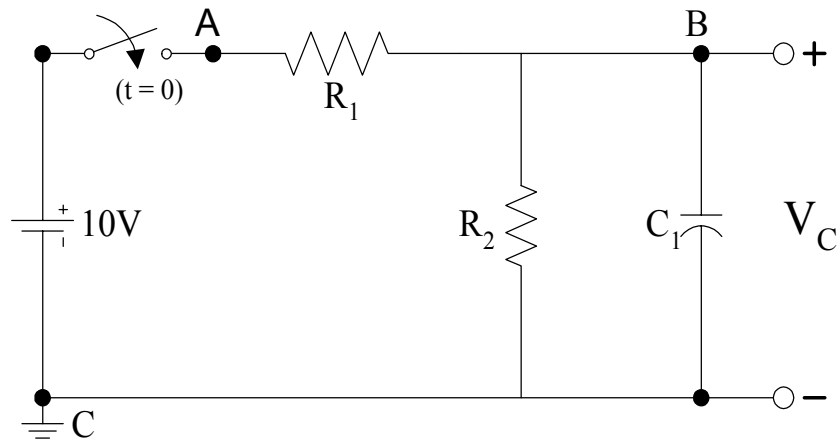

Figure 1
a. Build the circuit shown in Figure 1 on your QUAD board. **Be sure to install the capacitor with the correct polarity as shown!**
b. VIP the circuit in Figure 1. Note the value you calculated for τ and $V_C(t)$ from your Prelab.